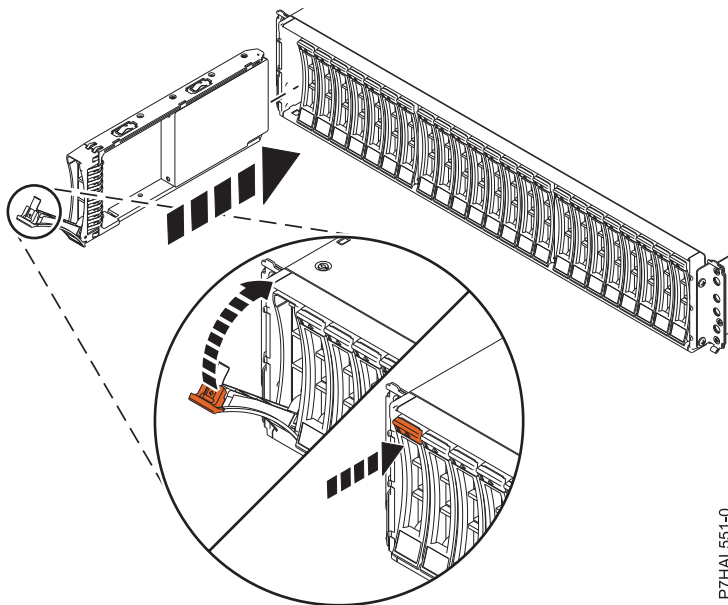

Figure 5. Installing or replacing the disk drive in an enclosure
2. With the handle in the unlocked position, as shown in Figure 5, support the bottom of the drive as you align it with the guide rails in the enclosure.
4. Lock the drive by rotating the bay handle (A) in the direction that is shown in Figure 5.